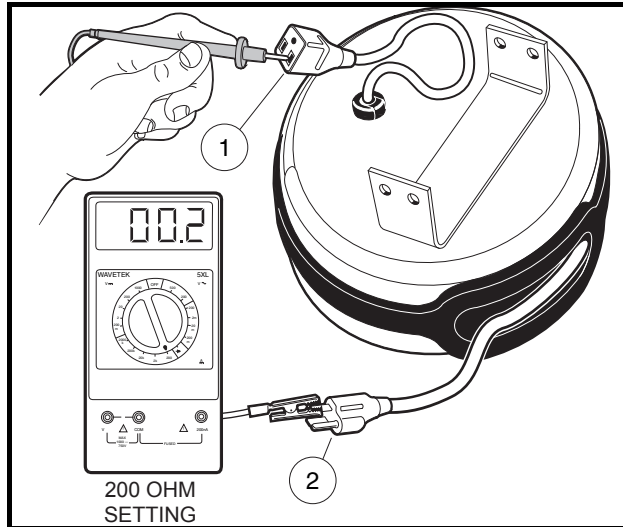

Figure 4-21 Retractable Cord Reel Test
5. Using a multimeter set for 200 ohms, place the red (+) probe in one of the flat blade openings of the cord reel receptacle (1) (**Figure 4-21, Page 4-22**). Test for continuity at the cord reel AC plug (2) on each of the flat blades and then on the round pin of the AC plug. The tester should indicate continuity on one flat blade only. If any other reading is obtained, the cord reel must be replaced.